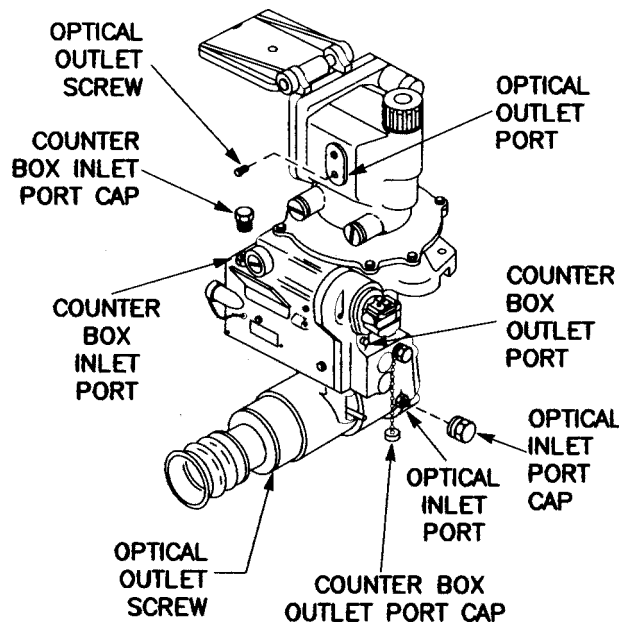

Figure 3-71 M113 and M113A1 Panoramic Telescope
c. Panoramic Telescope, M113 and M113A1 (fig. 3-71).
(1) Counter Box Assembly.
(2) Optical Assembly (fig. 3-71).